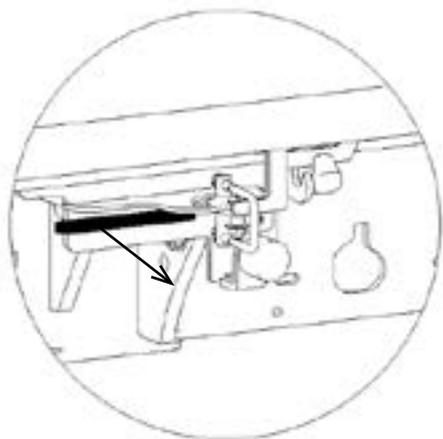

Figure 4
- 1- Pull on the spring clip handle (Figure 4).